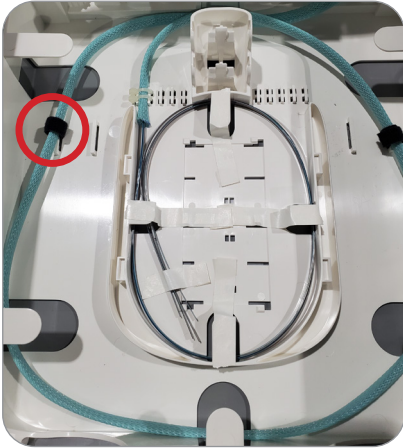

Figure 57
1. Route fiber sheathing back into box and use Velcro to reattach (Figure 57).